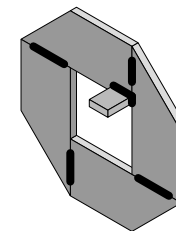

Figure 12: axial bearing washer.
- 9) Make four axial thrust washers from 40x6 or 40x3 or similar flat bar like those shown in Figure 12. You must remember to weld on a tag made of a 20 mm length of bar to each ring as shown in the drawings. This makes the washers go round with the axle and stops wear in the wrong places.